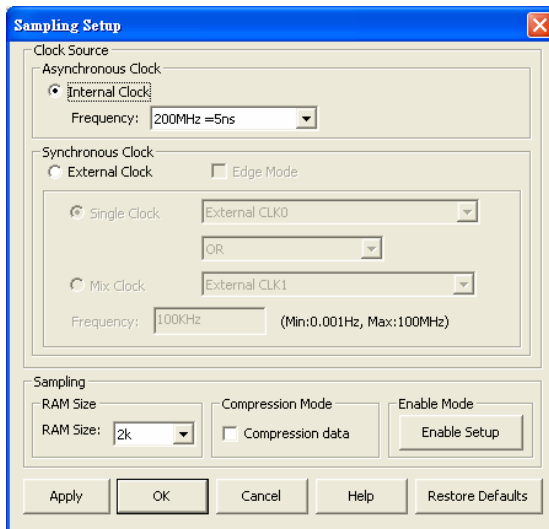

Fig 3-1 – Clock Source
Step 1. Click  icon or Click Sampling Setup from Bus/Signal on the menu bar, the dialogue as shown in Fig 3-1 will appear.